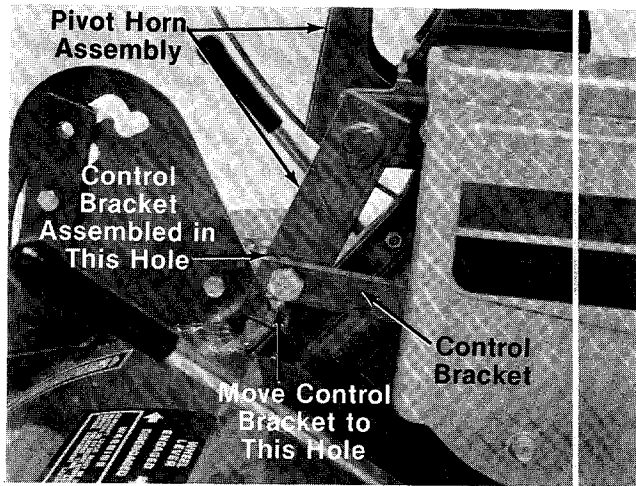

**FIGURE 26.**
**HANDLE ADJUSTMENT LEVER (See Figure 26)**
Figure 26 is viewed from the bottom of handle panel.
To make the adjustment, loosen hex lock nut and reposition the rod in Position A, B or C. See figure 26.